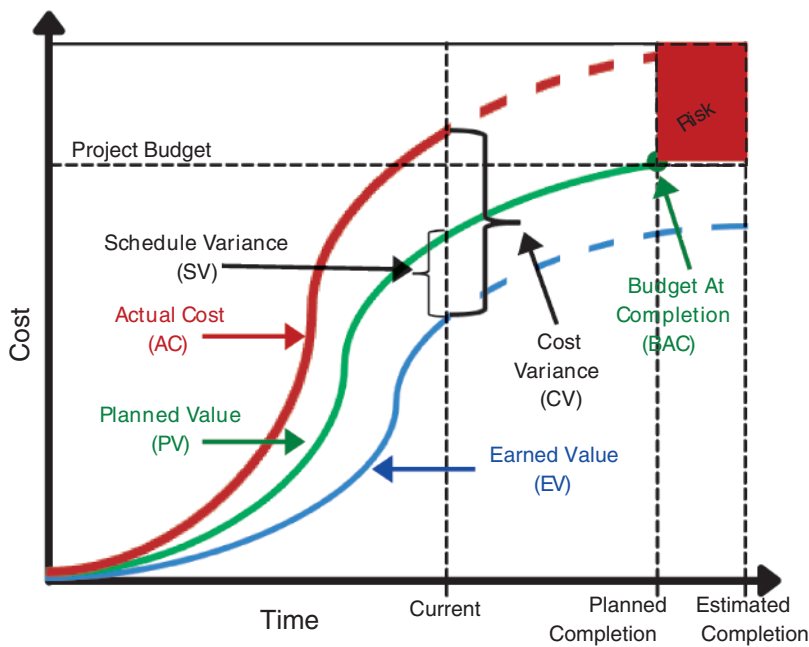
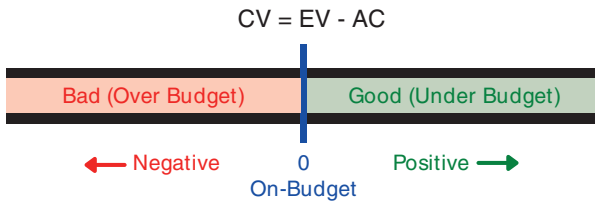
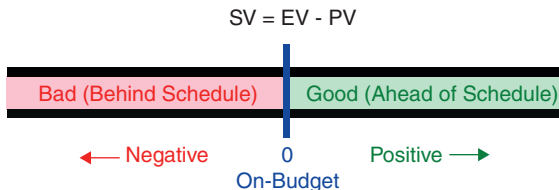

Figure 10.20 EVM overview.
Figure 10.22 Cost Variance (CV).
Figure 10.23 Schedule Variance (SV).
Figure 10.20 shows a typical EVM graph. Figure 10.21 provides explanations of what is shown. Understanding these relationships unlocks the full power of this tool.
These four measures can be used to the following standard variances that can be especially insightful to PMs. Cost Variance (CV) is described in Figure 10.22. Schedule Variance (SV) is described in Figure 10.23. They are graphically represented in Figure 10.20.